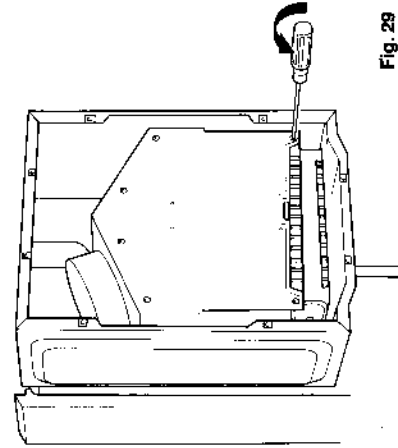

Fig. 29
8.6.3 Remove front of combustion chamber by releasing six screws (fig 29)